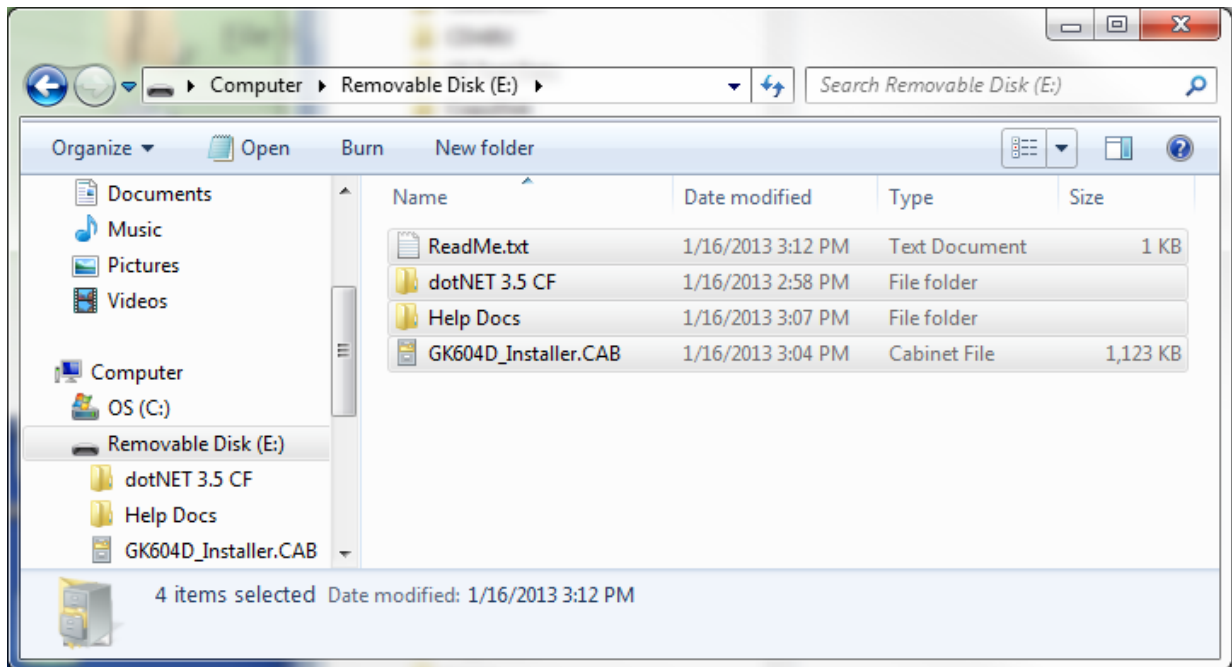

Figure 30 - Installation Folder Contents
- 3) Unzip the GK-604D Installer (downloaded from Geokon’s website), open a Windows Explorer window, and then navigate to the root folder of the Installation folder (Figure 30).
If the application fails to launch and the message, “This application requires a newer version of the Microsoft .NET Compact Framework than the version installed on this device”, is displayed then the .NET Compact framework that is included in the installer “Zip” file should be installed. The .NET Compact Framework installer is called “NETCFv35.wm.arm4i.cab” and is located in a folder called “dotNET 3.5 CF” (see Figure 30). Installation is very similar to installing the GK-604D IRA.